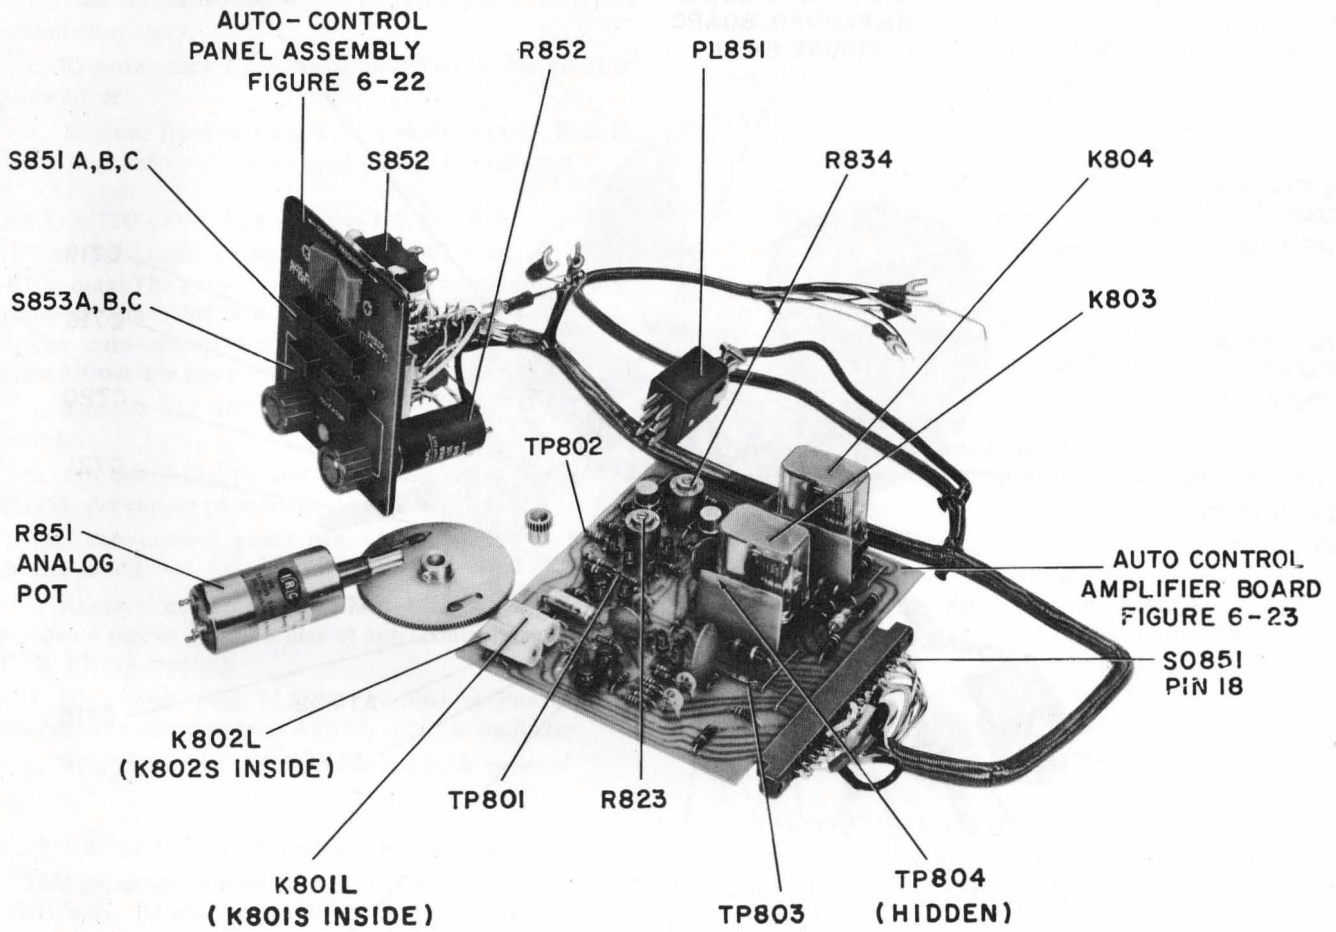

Figure 5-9. Auto-control-system components used in model 1003-9704.
5. Several parts of auto-control panel and amplifier (Figure 5-9).
7. COARSE FREQUENCY switch S852 (Figure 5-9) or equivalent.